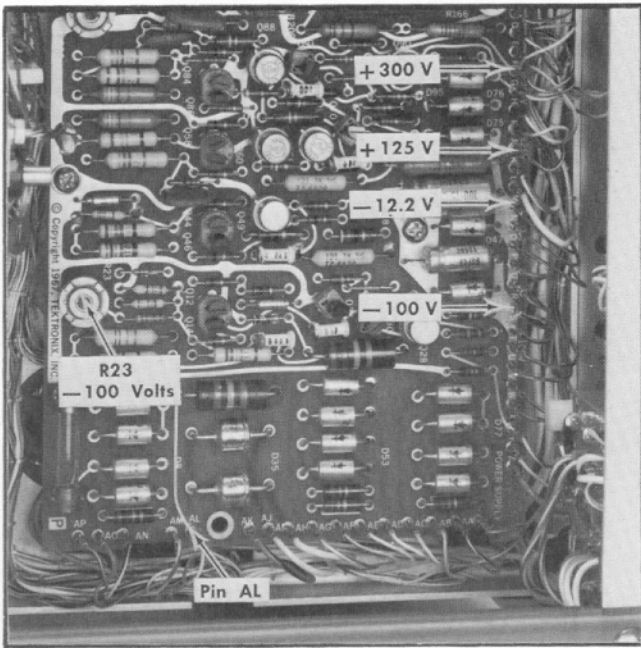

Fig. 5-2. Locations of power supply test points and R23, -100 Volts adjustment.
- b. Connect the precision DC voltmeter between the -100-volt test point and chassis ground (see Fig. 5-2).
- c. ADJUST—R23, -100 Volts (Fig. 5-2) for exactly -100 volts.
- a. Connect the precision DC voltmeter between each low-voltage test point and chassis ground. See Fig. 5-2 for test point locations.